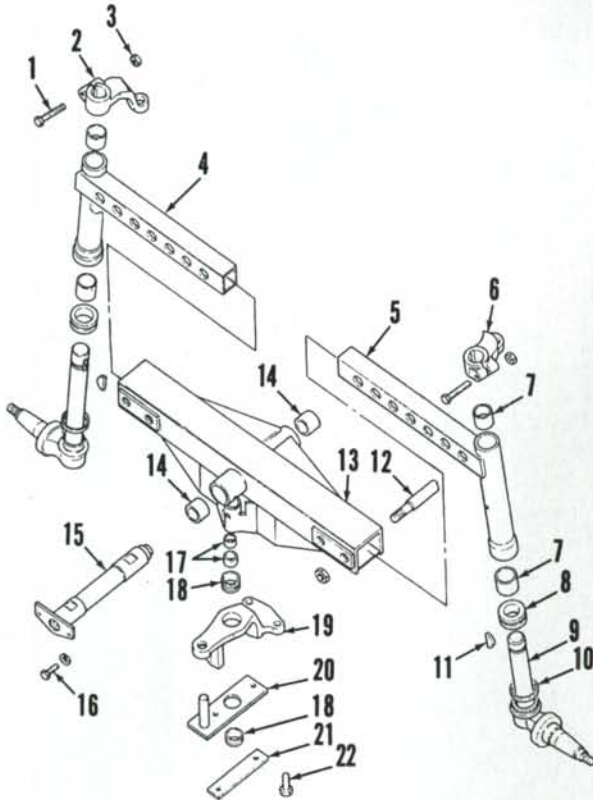

Fig. 3—Exploded view of straight adjustable front axle used on some tractors.
2. **R&R SPINDLES.** To remove either spindle (9—Figs. 3, 4 or 5), block rear wheels securely and apply park brake. Raise front of tractor and install jack stand under axle main member (13). Unbolt and remove front wheel and hub. Disconnect tie rod from steering arm (2 or 6). Remove bolt (1) and nut (3) and lift off steering arm. Remove Woodruff key (11) and lower spindle (9) with thrust bearing (8) and felt ring (10), downward out of axle extension. Remove thrust bearing and felt ring from spindle.
4. REMOVE AND REINSTALL. To remove axle main member (13—Figs. 3, 4 and 5), first block rear wheels securely and apply park brake. If so equipped, remove front weights and weight bracket. Unbolt and remove front cover. Support tractor with stands under side rails or oil pan, and remove front wheels. Disconnect tie rod ends from left and right steering arms (2 and 6). Unbolt and remove axle extensions (4 and 5) with spindle assemblies. Identify and disconnect steering cylinder hoses at cylinder. Cap and plug all openings. Remove the cylinder anchor clevis pin. Straighten corners of lock plate (21) and remove cap screws (22), lock plate (21) and cylinder retaining bar (20). Hold cylinder upward and slide cylinder clevis from anchor on axle. Remove steering cylinder. Remove center steering arm (19) and tie rods.